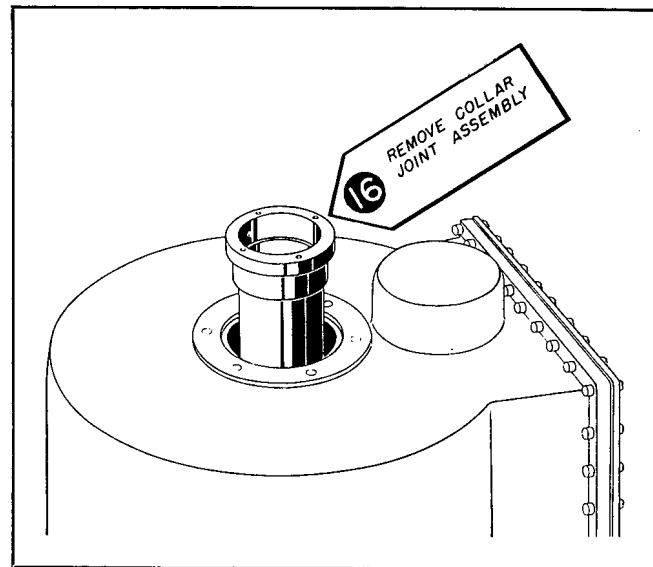

Figure 7-96. Removing Outer Conductor
(8) The last step in removing the r-f lines in the Antenna Pedestal is shown in Fig. 7-96. The step consists of lifting the outer conductor and pulling it straight up through the Pedestal. If the compression seal cannot be worked off before this step is performed, and a new seal is not available, protect the seal with small blocks of soft wood wired in place and lift the outer conductor up sharply several times to force the seal off.